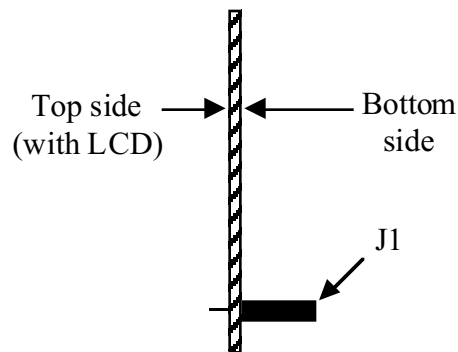

Figure 5-1
- Install a 20-pin female connector (receptacle) at J1 as shown in Figure 5-1. Do not solder yet.